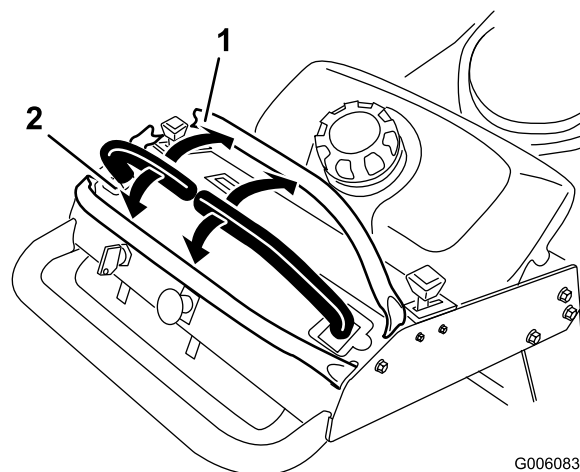

Figure 8
3. To go forward, slowly push the motion control levers forward (Figure 8).
To go straight, apply equal pressure to both motion control levers (Figure 8).
To turn, move the motion control lever toward neutral in the direction you want to turn (Figure 8).
2. To go backward, slowly pull the motion control levers rearward (Figure 8).
To turn, release pressure on the motion control lever toward the direction you want to turn (Figure 8).